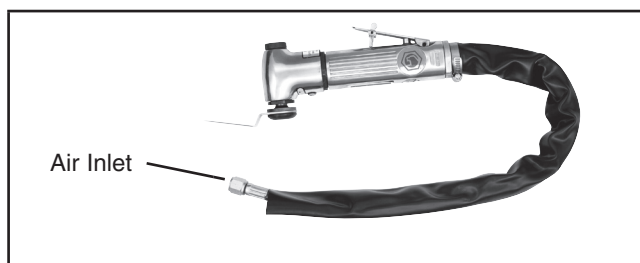

Figure 1
The air inlet (Figure 1), used for connecting air supply, has standard 1/4" NPT American Thread.
Lubricate the tool daily with a good grade of air tool oil. If no air line oiler is used, run a teaspoon of oil through the tool. The oil can be squirted into the tool air inlet (A) Figure 1, or into the hose at the nearest connection to the air supply, then run the tool. A rust inhibitive oil is acceptable for air tools.